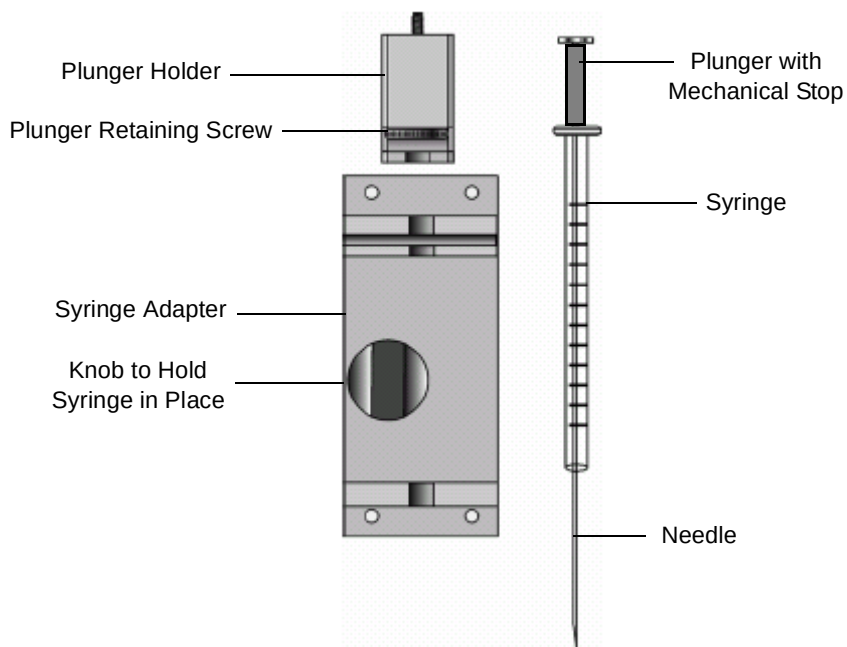

Figure 2-45 Placing the Syringe in the Adapter
2. Place the syringe in the appropriate syringe adapter (Figure 2-45). Pull the plunger out to approximately 20% of its length. If necessary, loosen the plunger retaining screw in the plunger holder.